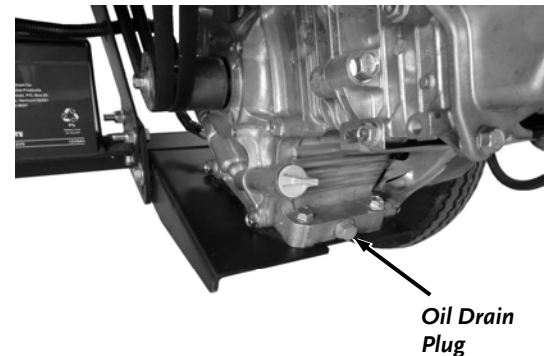

Figure 25
- 10mm Wrench (DR)
2. Remove the Oil Drain Plug with a 9/16" Wrench (Subaru) or a 10mm Wrench (DR) to drain the Oil into the Container (**Figure 25**).